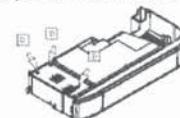

Figure 12.4
- Loosen screws D and remove the service panel (Fig. 12.4).